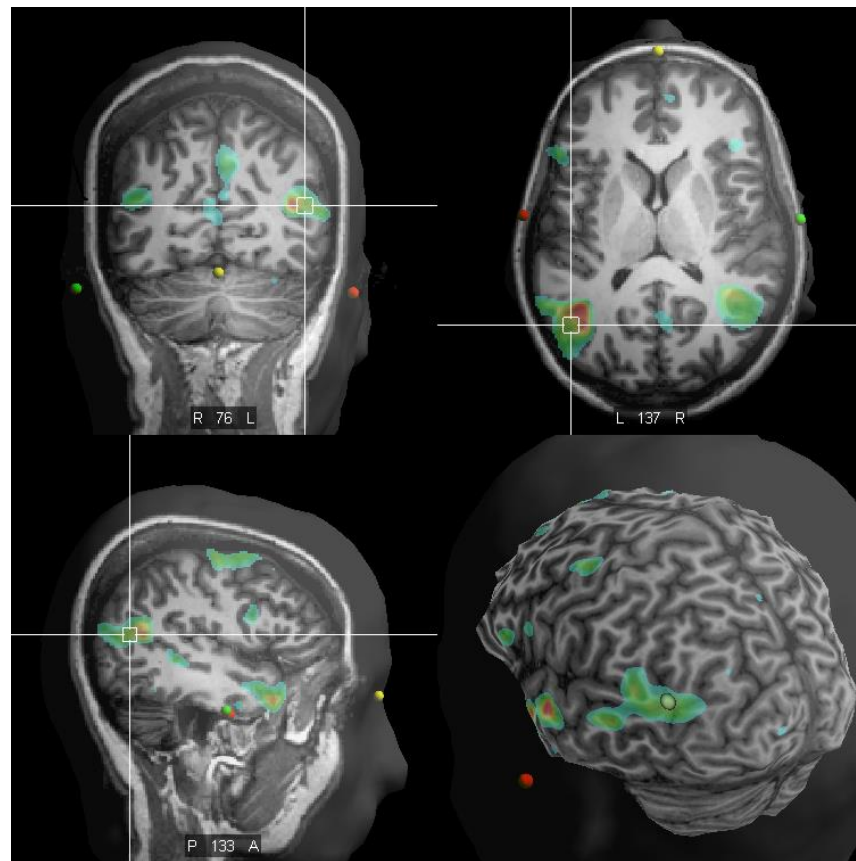

FIGURE 50: 3D VISUALIZATION OF SUPERIMPOSED MRI AND FMRI
- The MRI and the fMRI will be co-registered and superimposed. The fMRI will be projected onto the curvilinear surfaces, as shown in Figure 50. You can set target markers both on the 2D slices as well as on the 3D display by clicking at the desired location.